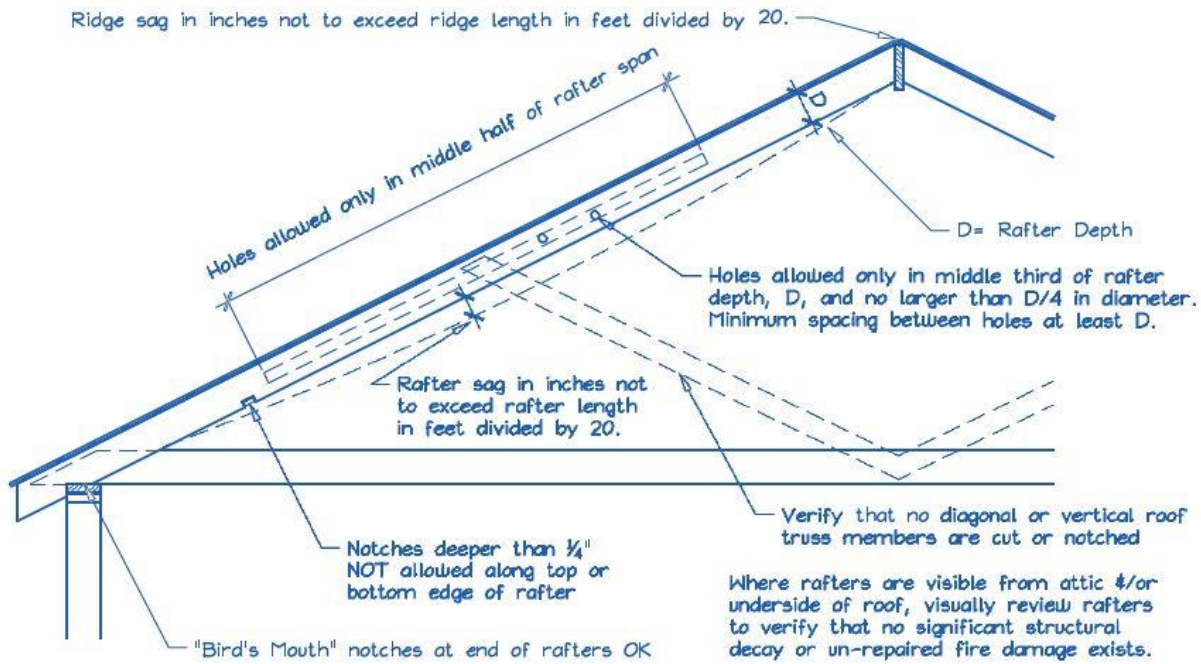

Figure 1. Roof Visual Structural Review of Existing Conditions. (Site Audit)
- 2) Does the roof structure appear structurally sound, without signs of alterations or significant structural deterioration or sagging, as illustrated in Figure 1? YES NO